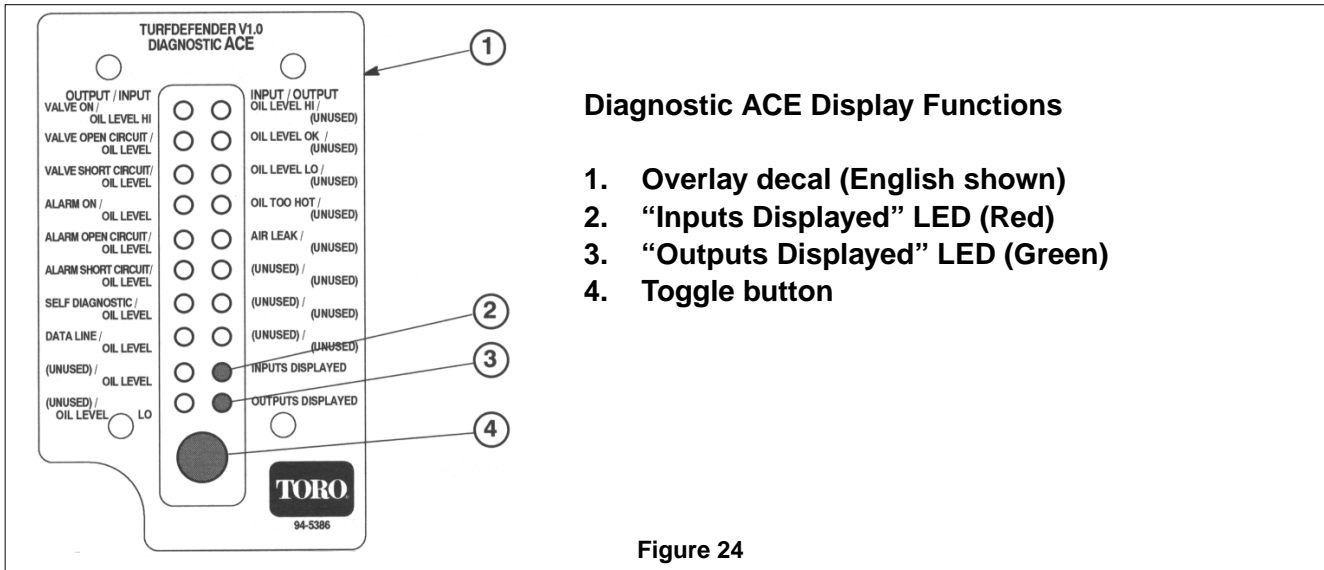

Figure 24
3. Connect the Diagnostic ACE display connector to the correct harness loopback connector. Install the TurfDefender overlay decal (supplied with the leak detector kit) onto the Diagnostic ACE (Fig. 24).
5. The red "Inputs displayed" LED (Light Emitting Diode), on lower right column of the Diagnostic ACE, should be illuminated. If the green "Outputs displayed" LED is illuminated, press and release the toggle button on the Diagnostic ACE, to change LED to "Inputs displayed". Do not hold the button down (Fig. 24).